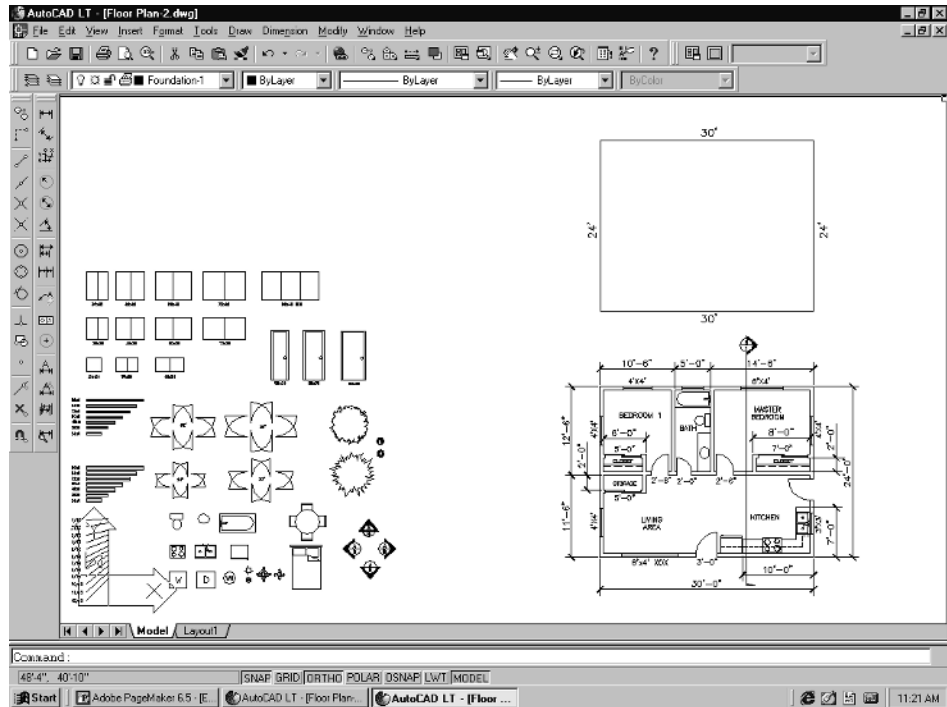

Figure 3-5
- Now, with our current layer set to Foundation-1, select the **Line** command and draw a rectangle 30'x24' to the side or above the floor plan. See Sheet #2 in the appendix and Figure 3-5.